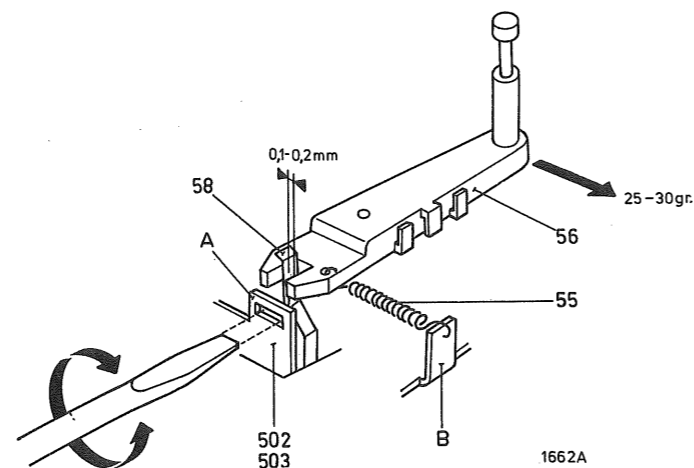

Fig. 12
4. Adjusting the tape tension control (see Figs. 12 and 29)
- The clearance between the centre contact of switch 58 and the side of the slot in tape tension sensor 56 should be 0.1 - 0.2 mm in the rest position. To be adjusted by bending tag A (see Fig. 12).
- The force exerted on the pin of the tape tension sensor should be 25 - 30 grammes when the contact just opens. To be adjusted by bending tag B (see Fig. 12).